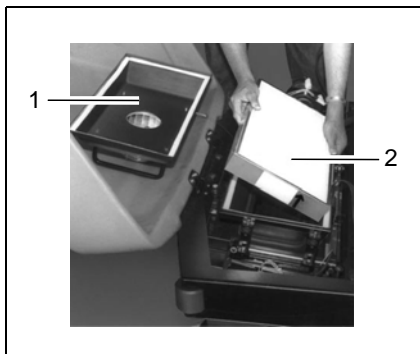

Fig. 38
2. Remove the straps holding the filter case cover (Fig. 38/1).
3. Remove the filter case cover (Fig. 38/1).
4. Remove the panel air filter (Fig. 38/2).
Drop the panel air filter (Fig. 38/2) a few times, from a suitable height, onto a solid surface. Ensure the filter ribs are not damaged!
The surface must not have any irregularities. Do not let the panel air filter (Fig. 38/2) drop at a slant.
Do not install panel air filters (Fig. 38/2) which have damaged filter ribs!
The panel air filter (Fig. 38/2) must be installed in the reverse sequence to disassembly, refer to Section "Disassembling the panel air filter".
To not insert the panel air filter (Fig. 38/2) the wrong way around! Pay attention to the arrow on the frame of the panel air filter (Fig. 38/2)! The arrow must point upwards.